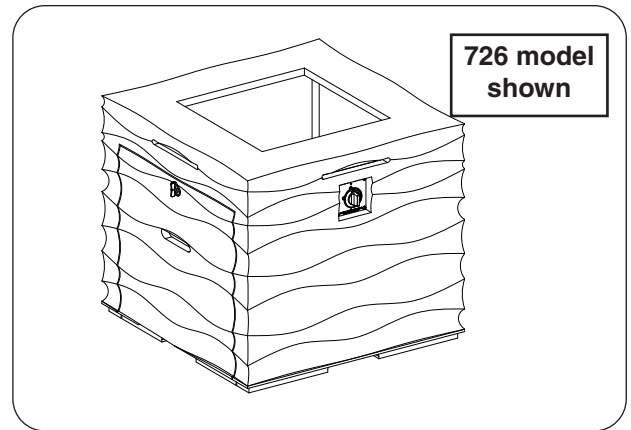

Fig. 27-1 Place unit
1. **CAREFULLY** place the unit in an appropriate location (see Fig. 27-1, and refer back to the LOCATION section if needed).